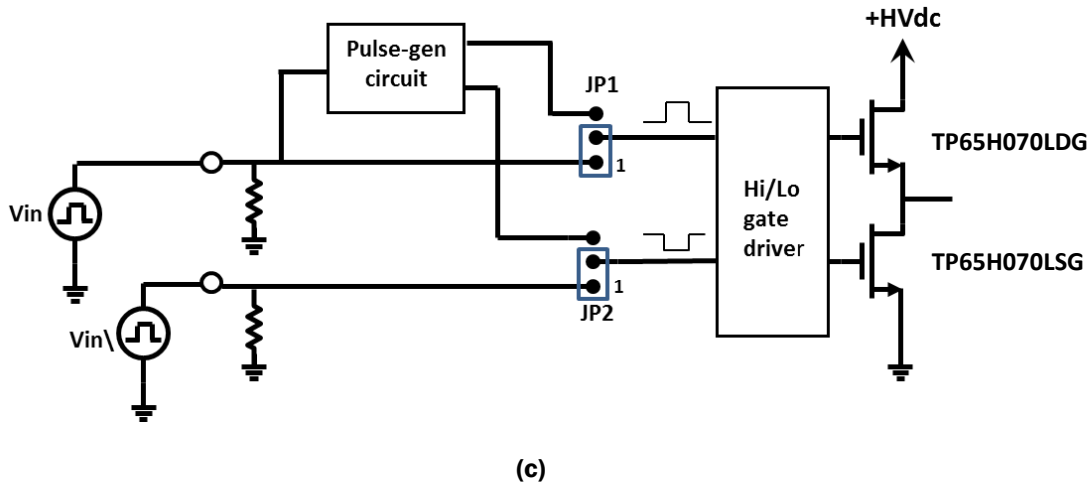

Figure 5. Input configurations
Figure 5 shows possible configurations for the gate-drive signals. In Figure 5(a), a single input from an external signal source is used together with the on-board pulse generation circuit. J4 is used, J6 is left open circuit. Jumpers JP1 and JP2 are in the top position, as shown. If the high-side transistor is to be the active switch (e.g. buck mode), then the duty cycle of the input source should simply be set to the desired duty cycle (D). If the low-side transistor is to be the active switch (e.g. boost mode) the duty cycle of the input source should be set to (1-D), where D is the desired duty cycle of the low-side switch. This configuration results in synchronous rectification. If it is desired to let the device carrying the freewheeling current act as a diode, then the appropriate jumper should be placed so that the pull-down resistor is connected to the driver. Figure 5(b) shows a buck-mode
configuration where the low-side device is not enhanced. Finally, Figure 5(c) shows use of two external signal sources as inputs to the gate driver.